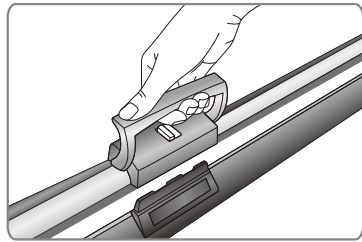

Figure 6
5. Pull up the screen with constant speed and stop at desired position for three minutes so that the screen can be installed (Figure 6 - 9).